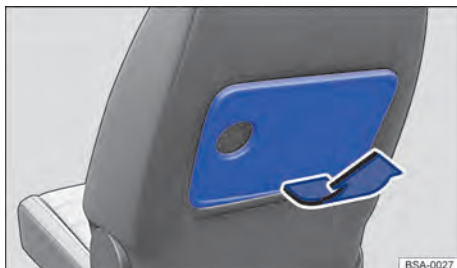

Fig. 142 Front seat: setting up the folding table.
1. To set up the folding table, press the release button on the lower edge of the table and pull upwards in the direction of the arrow → Fig. 142 until it clicks into place.